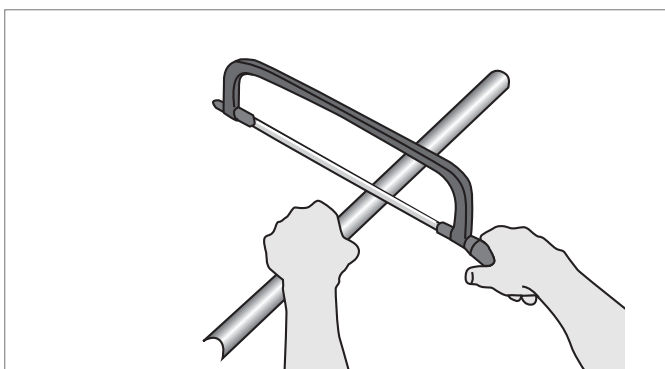

Fig. 7-11 Cutting off pipe support channel
1. Cut off the pipe support channel with a metal saw (see Fig. 7-11). Maintain a safe distance between your holding hand and the cutting tool. Saw pipe support channels from the rounded rear side, not the open side so that they are not bent open at their bordered ends.